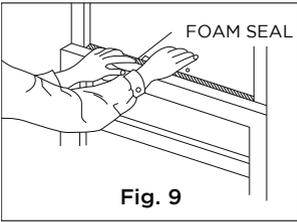

Fig. 9
7. Cut window sash seal foam and insert it in the space between the upper and lower sashes (Fig. 9).